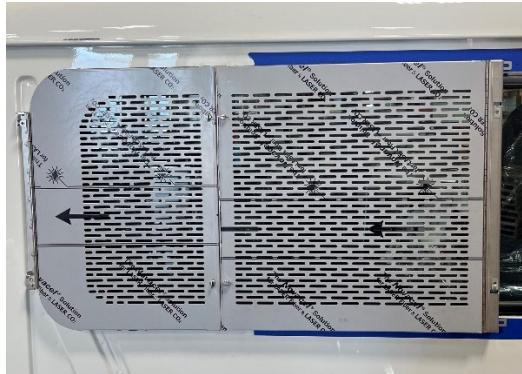

Figure 8: Middle Guard Assembly in Position
13. Mount the MGA to the Driver Bracket using the thumb screws installed in the Middle Guard. (Figure 8)